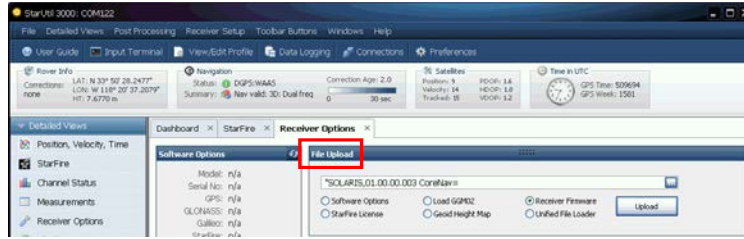

Figure 23: File Upload Window
57. Locate the *File Upload* window on the *Receiver Options* tab (see Figure 23).